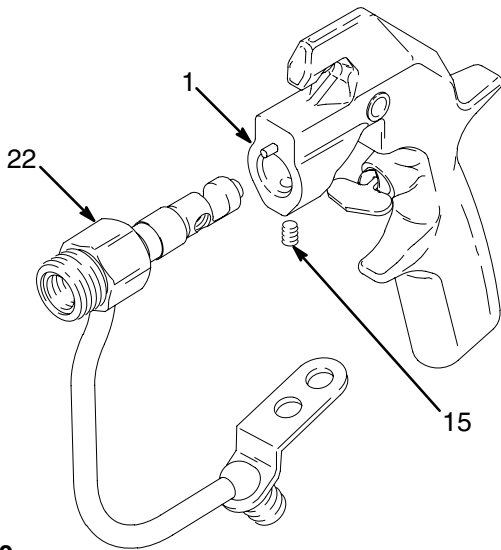

Fig. 10
6. Loosen the setscrew (15). Pull the fluid housing (22) away from the gun body (1). See Fig. 10.